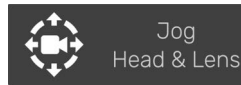

Figure 34 - Jog Head & Lens Button
1. On the touchscreen, tap the **Jog Head & Lens** button (**Figure 34**).